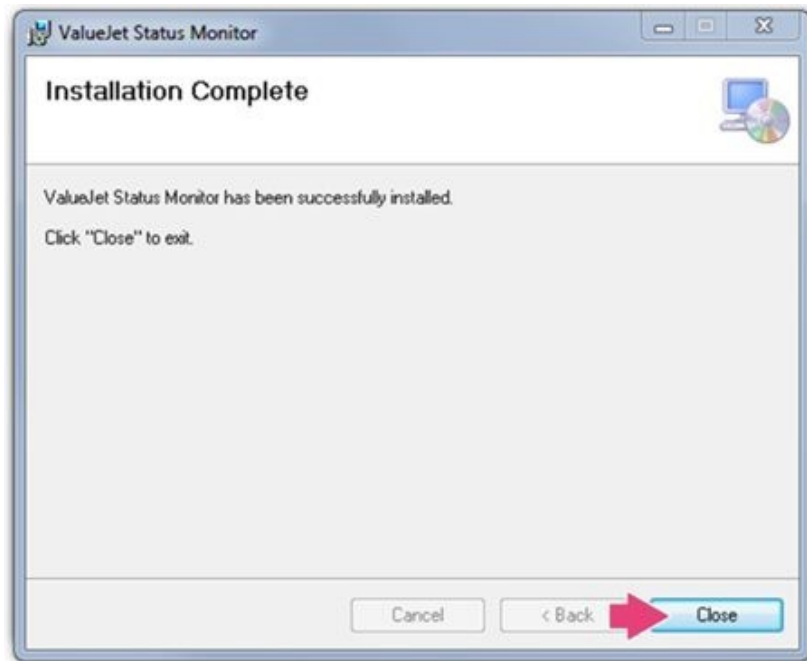

Figure 41
28. When the installation is complete, you will see a message stating "ValueJet Status Monitor has been successfully installed." Select **Close** to exit. See Figure 41.